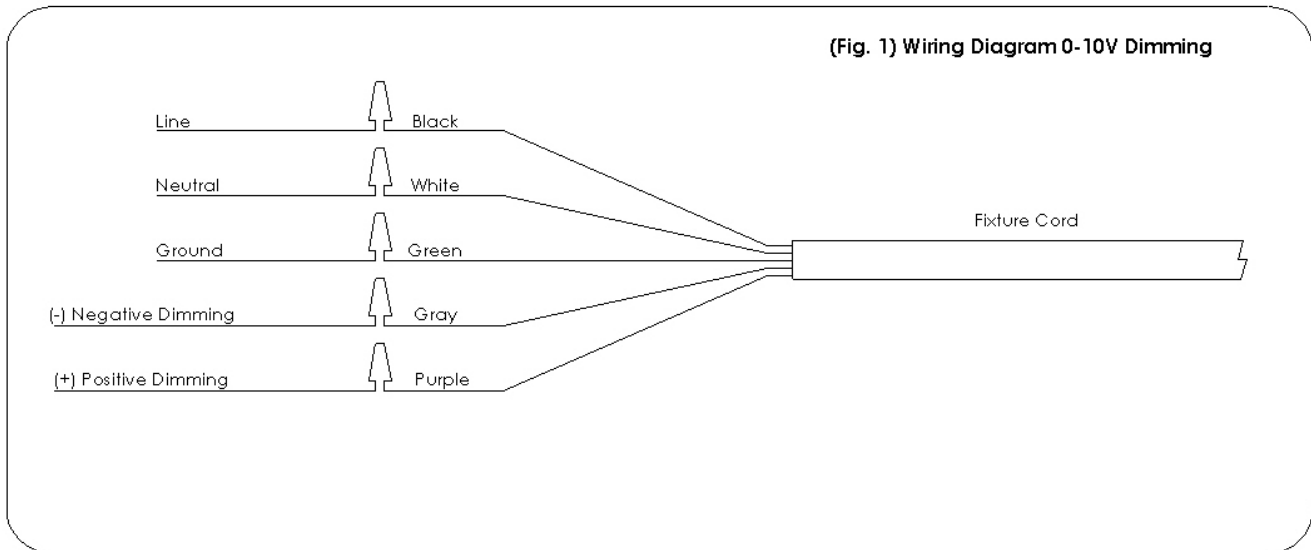

Fig. 1
2. If the fixture is not fitted with existing plug, connect fixture wiring to line wires. Use only UL listed wiring devices. Reference Fig. 1 for wiring. Purple and Gray leads are used for 0-10 dimming ONLY. Cap wires if not used.
2. Remove (3) screws securing end cap to access wiring compartment.
4. If fixture is not fitted with existing plug, connect fixture wiring to line wires. Use only UL listed wiring devices. Reference Fig. 1 for wiring. Purple and Gray leads are used for 0-10 dimming ONLY. Cap wires if not used.